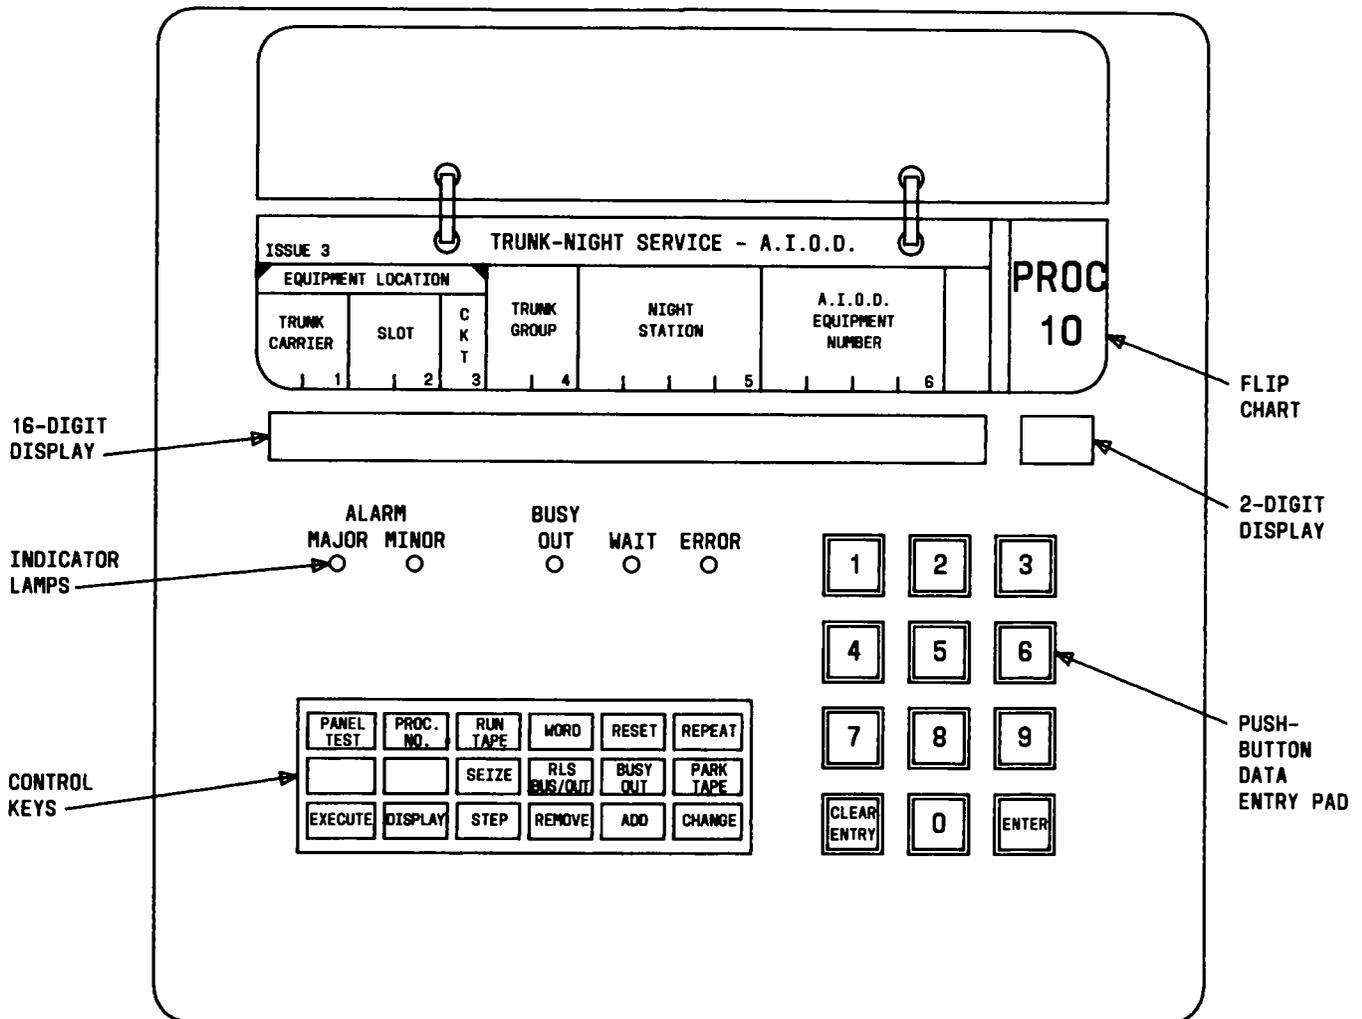

Fig. 50—Maintenance and Administration Panel
4.156 The MAAP (Fig. 50) provides the means to alter translations (eg, class of service, line assignments), initiate traffic measurement, and initiate maintenance programs used to isolate faults. The MAAP contains a 12-pushbutton data entry pad and three rows of buttons for control and operation, a 16-digit operational display, a 2-digit procedure display, and indicators for alarm and operational status.